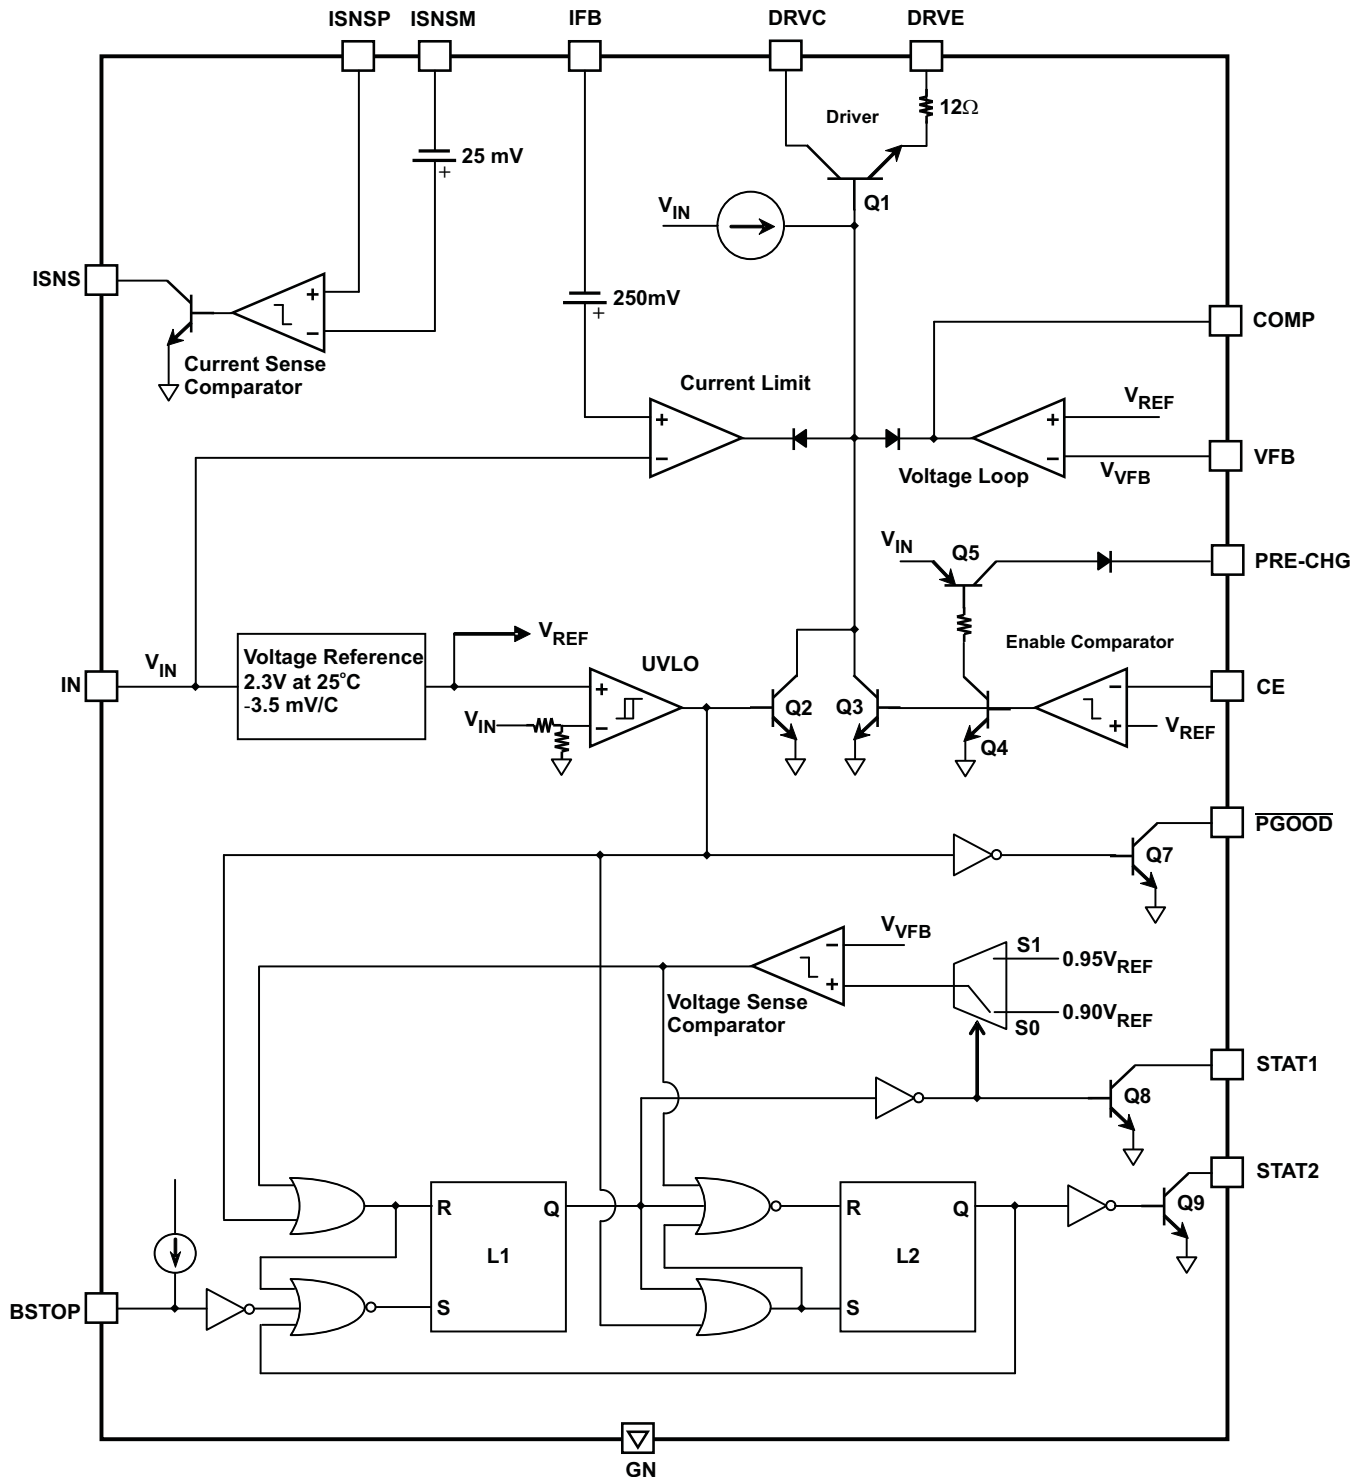
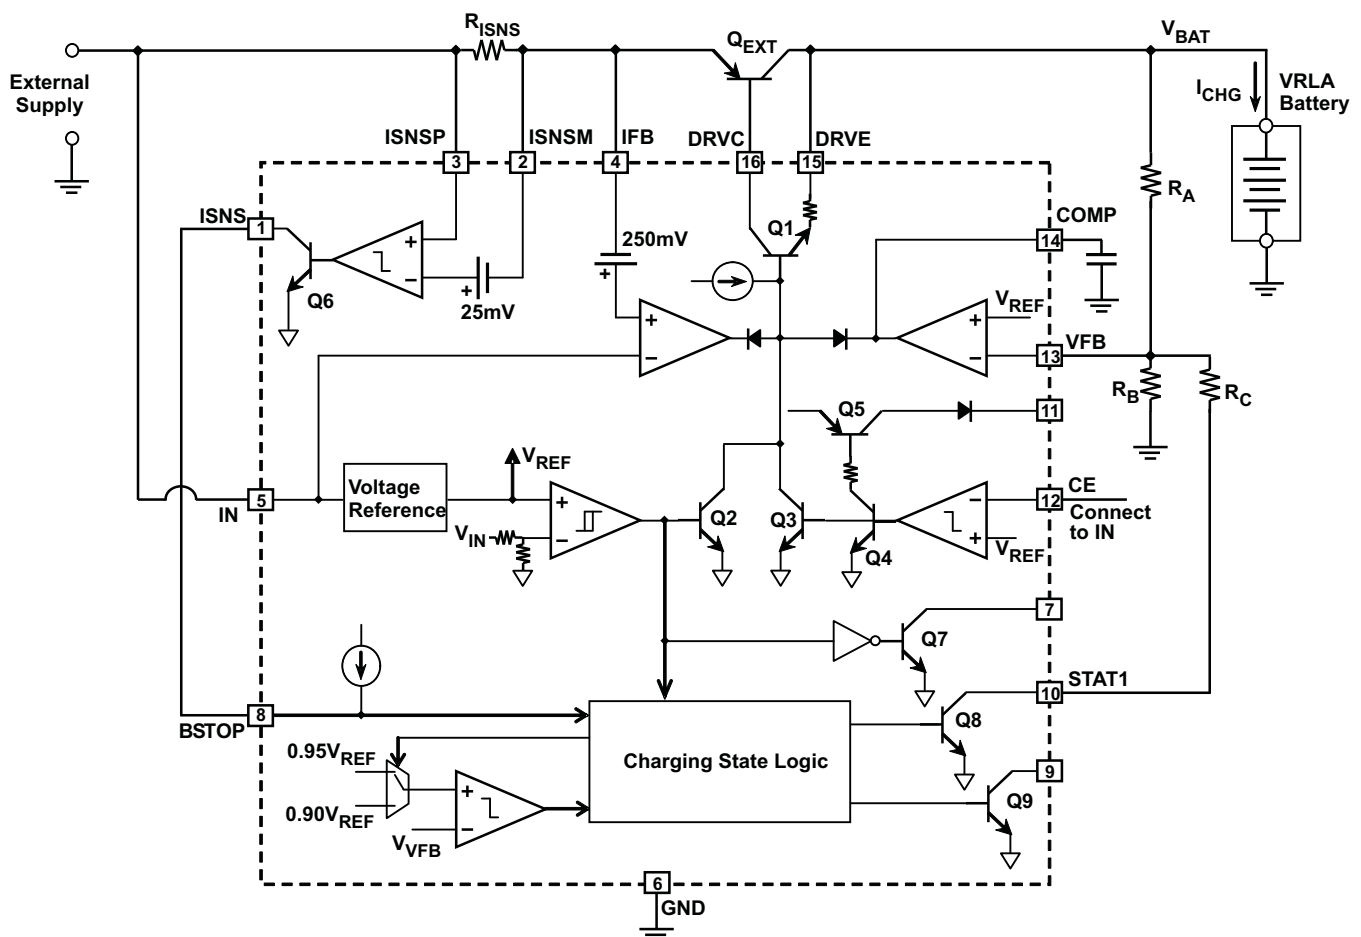
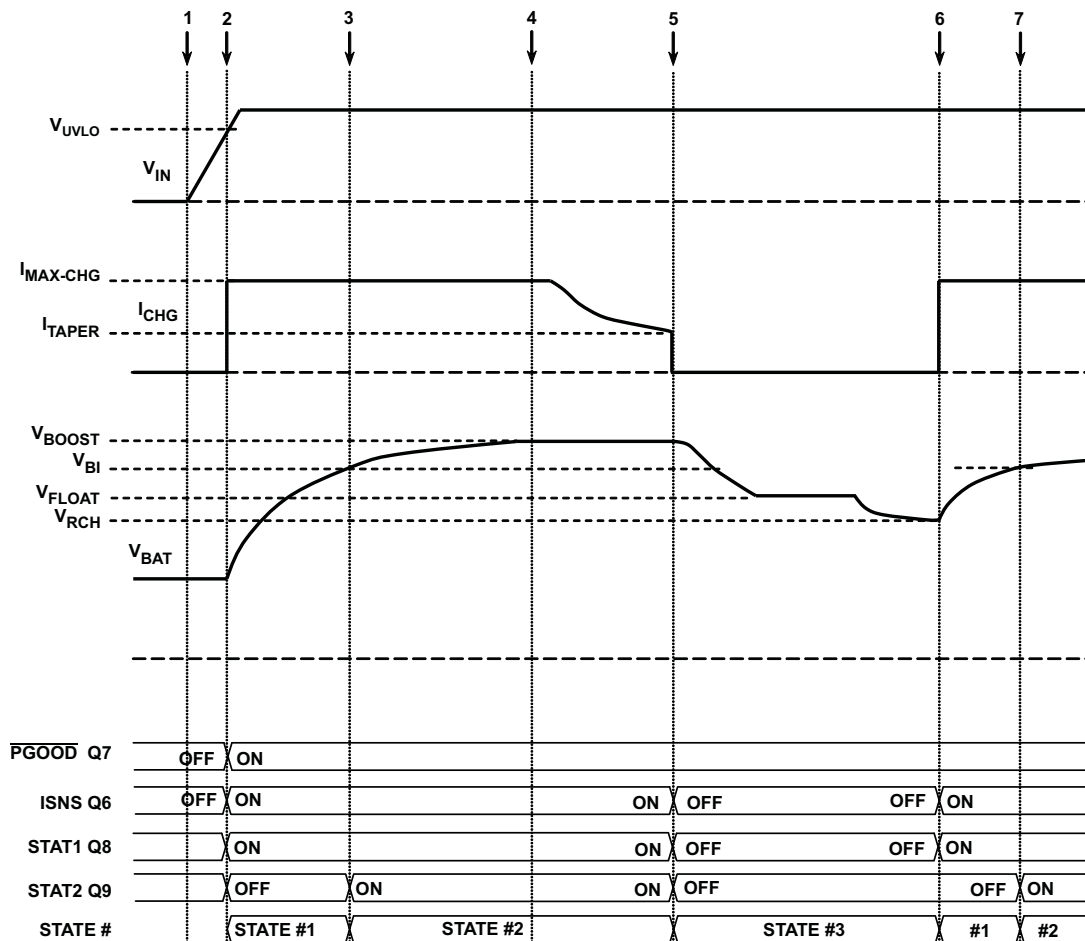

Figure 2. Simplified Block Diagram
Figure 4.
Figure 5.
Only an external pass transistor and minimum number of external passive components are required along with the IC to implement a charger for sealed lead-acid batteries. The IC's internal driver transistor Q1 (see Figure 2) supports NPN as well as PNP pass transistors, and provides enough drive current (25mA specified) to support a wide range of charging rates.
The driver transistor is controlled by a voltage regulating loop and a current limiting-limiting loop (see Figure 2). The current-limiting loop reduces drive when the voltage between the IN pin and the IFB pin increases towards V_{ILIM} (250mV typical). The voltage regulating loop tries to maintain the voltage on the VFB pin at V_{REF} . Together, these two loops constitute a current-limited precision constant-voltage system, which is the heart of any lead-acid charger. The voltage regulating amplifier needs an external compensation circuit which depends on the type of external pass transistor (see Application Information section).
An undervoltage lock-out circuit is also provided (see Figure 2). This circuit disables the driver transistor as long as the input voltage is below UVLO (4.5V typical). The UVLO circuit also drives an open-collector output PGOOD.
Figure 4 shows the bq24450 configured as a simple dual-level float-cum-boost charger. Figure 5 shows the sequence of events that occur in a normal charge cycle. At (1) in Figure 5, power is switched ON. As long as the input voltage V_{IN} is below the undervoltage lockout threshold UVLO, Q2 is ON, disabling the driver transistor Q1. As the input voltage V_{IN} ramps up and rises above UVLO Q2 turns OFF. This enables Q1 and thus the external transistor Q_{EXT} . At the same time, Q7 turns ON, latch L1 is forced to RESET and latch L2 is SET (see Figure 2 for the internals of the Charging State Logic).
As charging proceeds, the voltage at the VFB pin increases further to V_{REF} . At this point, the voltage regulating amplifier prevents the voltage at the VFB pin from rising further, maintaining the battery voltage at V_{BOOST} . [(4) in Figure 4].
As long as the peak load current is less than $I_{MAX-CHG}$, it will be supplied by Q_{EXT} , and the voltage across the battery will be maintained at V_{FLOAT} . But if the peak load current exceeds $I_{MAX-CHG}$, the battery will have to provide the excess current, and the battery terminal voltage will drop. Once it drops below $0.9V_{REF}$, at (6) in Figure 4, a new charge cycle is initiated. The battery voltage V_{BAT} at this point, V_{RCH} , is given by:
The problem with the charger circuit shown in Figure 4 is that even with deeply discharged batteries, charging starts at full current level $I_{MAX-CHG}$. This can sometimes be hazardous, resulting in out-gassing from the battery. The bq24450 can be configured to pre-charge the battery till the voltage levels rise to levels safe enough to permit charging at $I_{MAX-CHG}$.